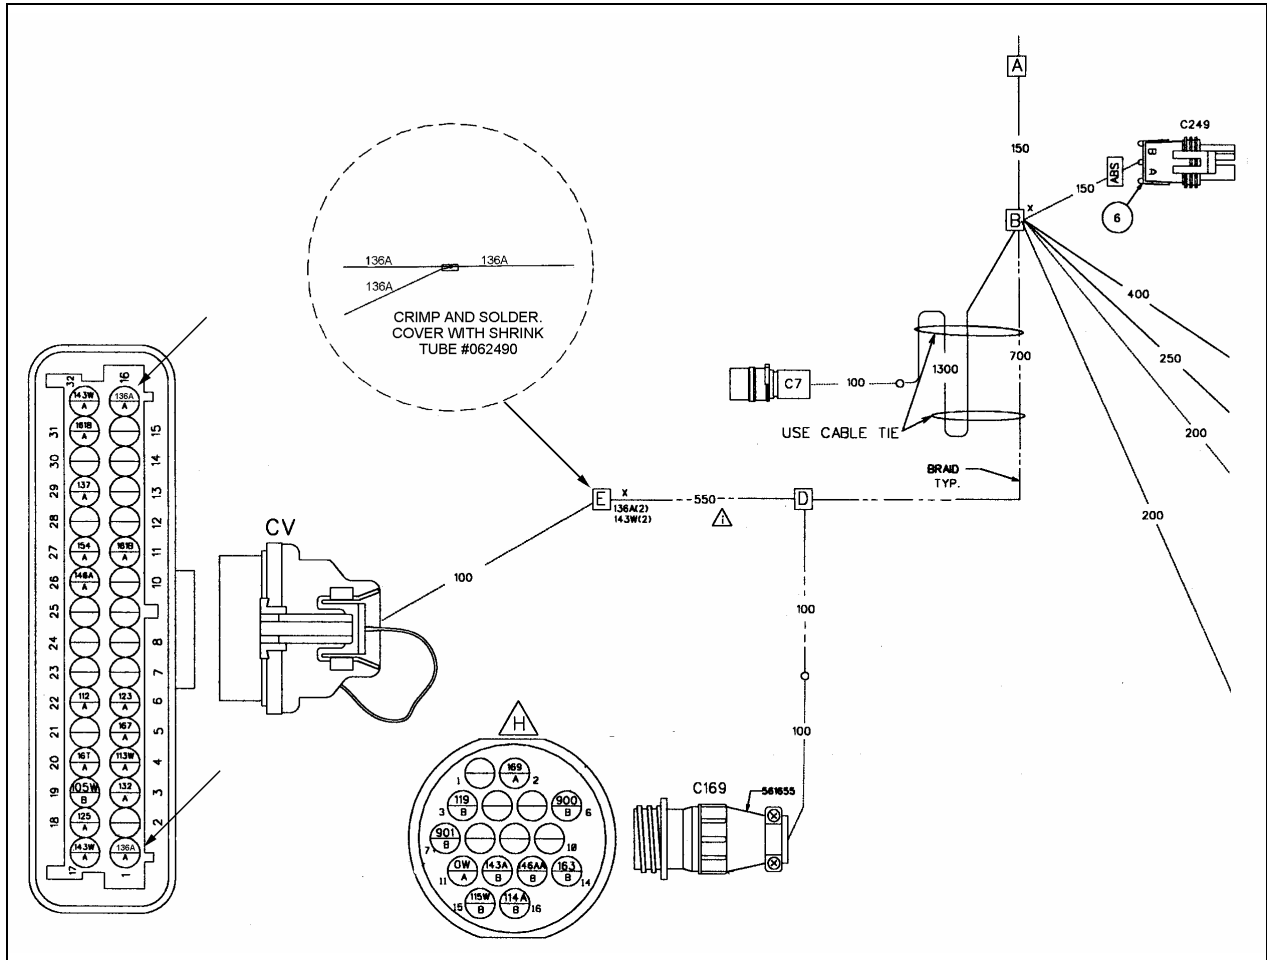

FIGURE 3: SCHEMATIC OF THE SPLICE IN WIRE 136A, CABLE #064777 (XLII VEHICLES)
2. Practice an incision in the outer shield of the cable, 4 inches (100 mm) from the connector (see fig. 3). Be careful not to damage the wires inside the cable;